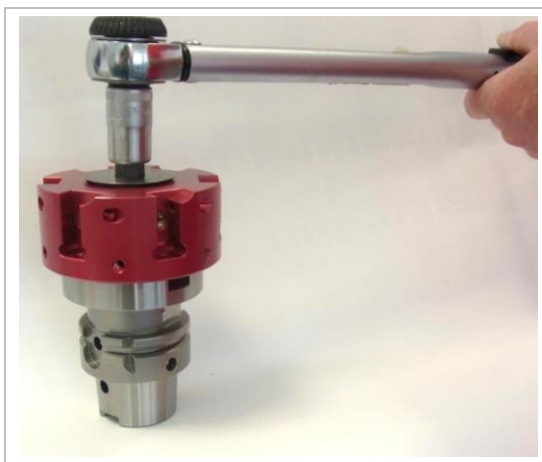

Figure 6: Undoing milling cutter clamping screw
1. Undo the milling cutter clamping screw with the aid of the suitable torque wrench (see "Figure 6: Undoing milling cutter clamping screw").